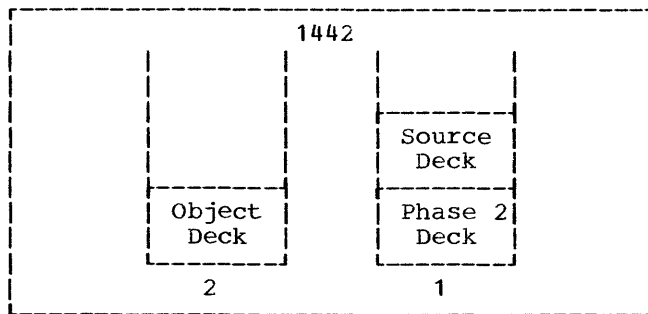

Figure 6. Stacker Contents at End of Assembly
17. The contents of the stackers at the completion of assembling are shown in Figure 6.